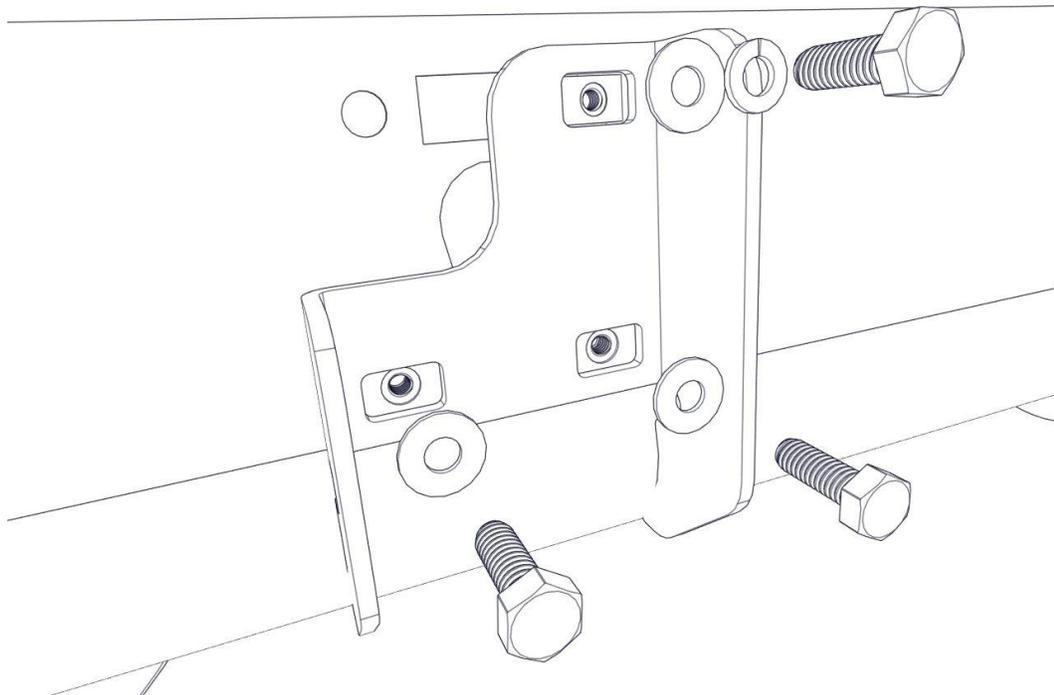

Figure 7 - HARDWARE STACKUP FOR MOUNTING SIDE STEP
4. From underneath the driver side of the vehicle, lift the FabFours Side Step to a position where the front top 5/16-18 bolt, flat washer and lock washer can be installed. **Do not tighten!** This bolt can be used to hold the FabFours Side Step in position as the other hardware is added. Stack-up of fasteners is shown in Figure 7 for additional reference. See below for front fastener identification: